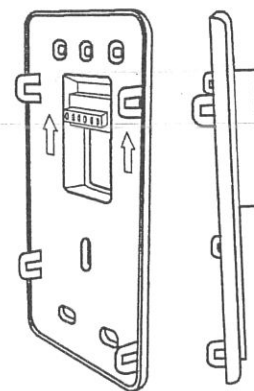

Fig. 3 – Recessed Mount Backplate
**RECESS MOUNT** — This provides the thinnest mounting configuration (See Fig. 3). The backplate containing the recessed terminal block can be mounted directly to the wall by cutting a hole 1 1/2" wide by 2 1/8" high. Mark location and cut hole in wall.